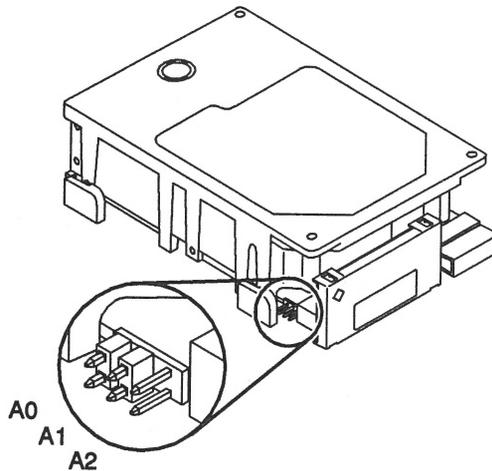

Figure 6-4 SCSI Device Address Jumper Settings
2. **Compare the disk drive address jumper settings to the settings shown in Figure 6-4.**